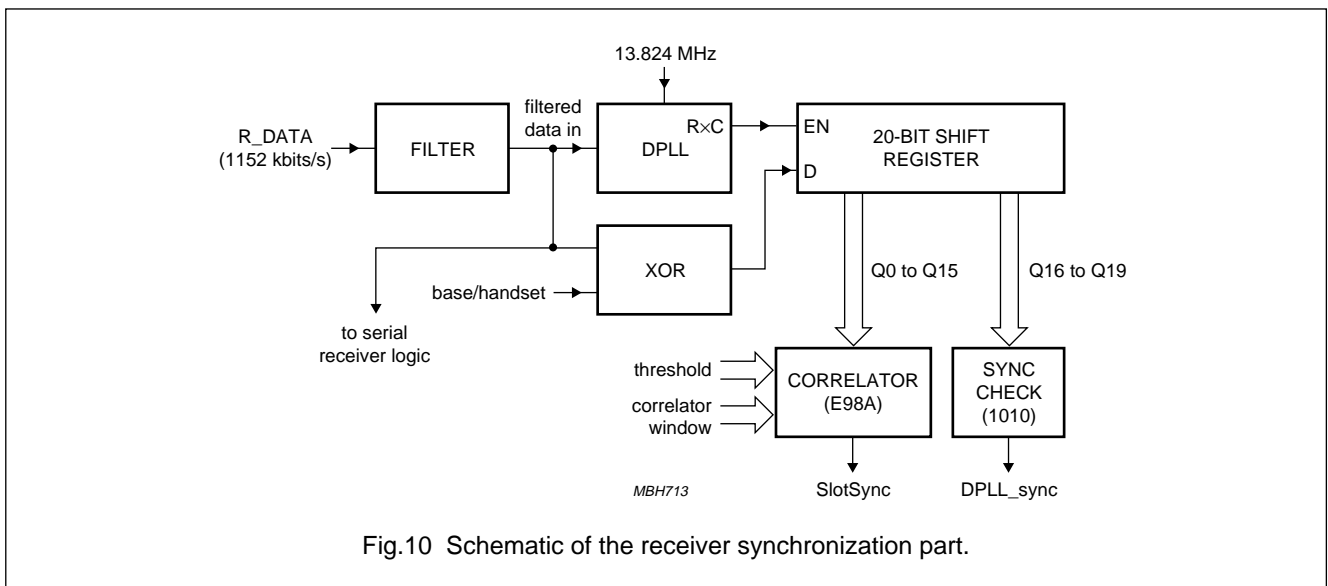

Fig.10 Schematic of the receiver synchronization part.
6.5.8 DATA SYNCHRONIZATION (see Fig.10)